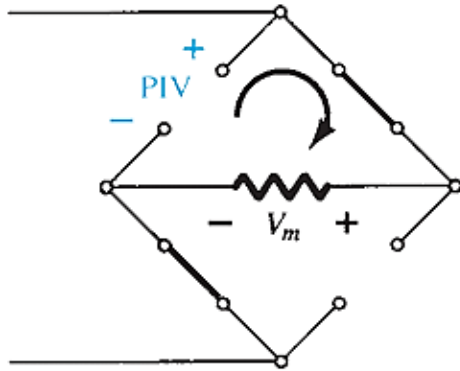

FIG. 2.59
***The PIV as determined from Fig. 2.59 is equal to the maximum voltage across R , which is 5 V, or half of that required for a half-wave rectifier with the same input.